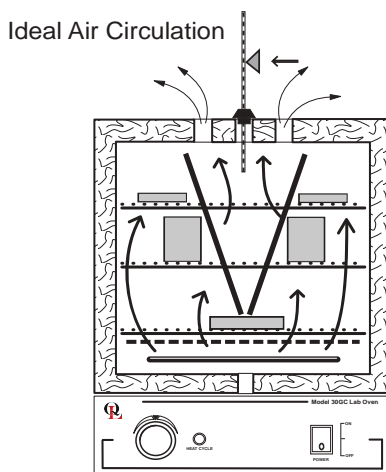

FIG. 4
- ▶ Stagger articles from those on lower shelves in a "V" formation for best performance. (FIG. 4)